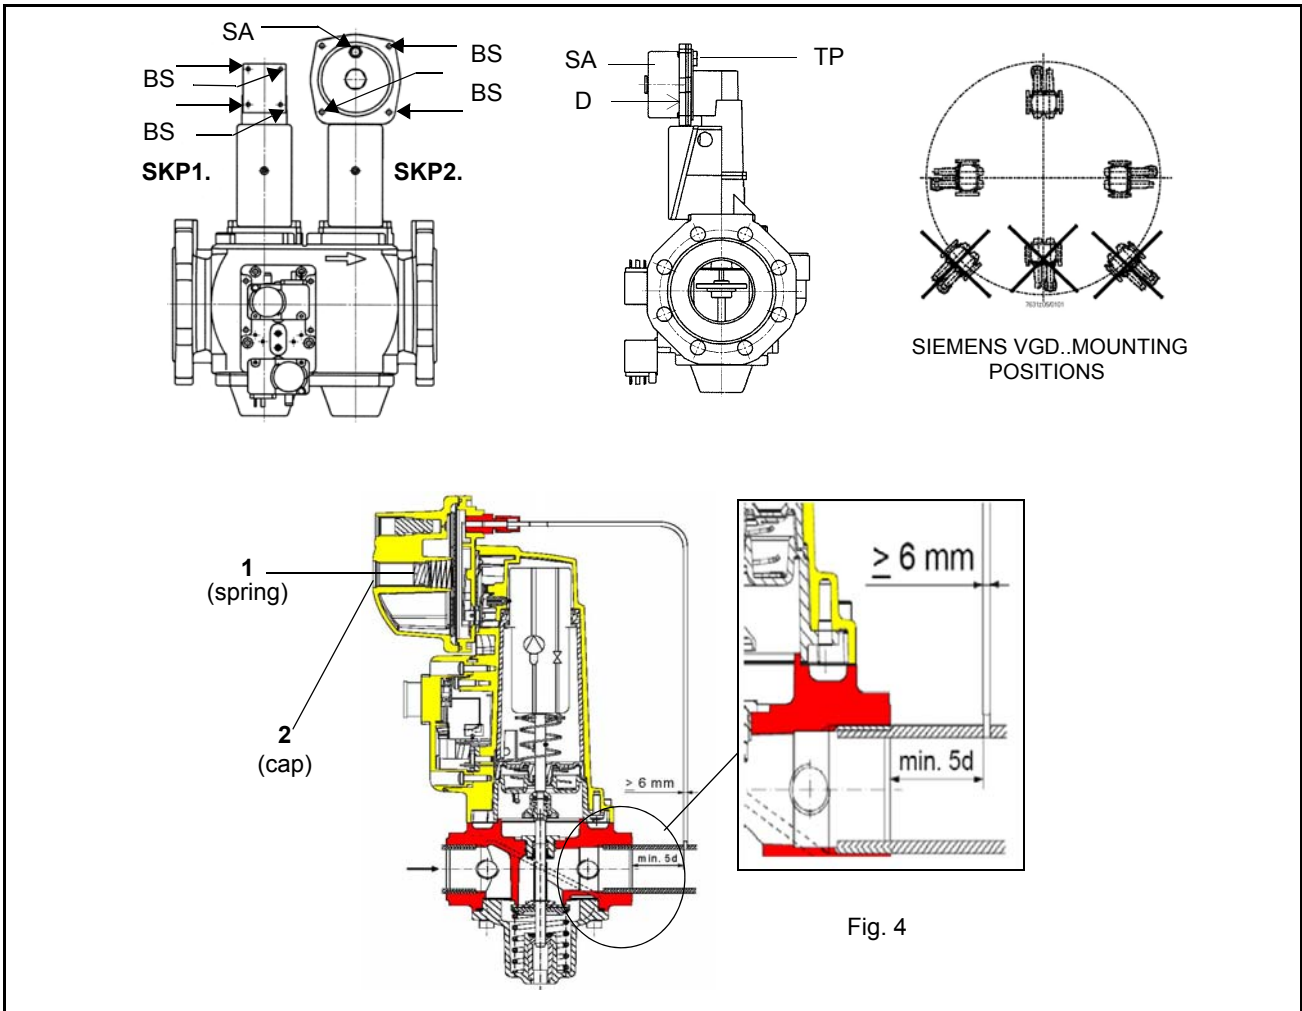

Fig. 4
**Caution:** the SKP2 diaphragm D must be vertical (see Fig. 4).